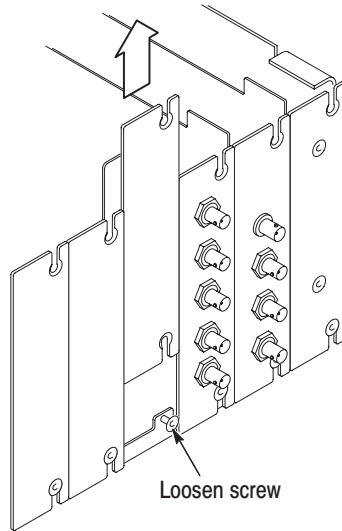

Figure C-3: Removing the rear panel
4. Remove the appropriate rear panel as shown in Figure C-3. Loosen, but do not remove the bottom screw. You will use it later to secure the module.
4. Remove the appropriate rear panel as shown in Figure C-3 on page C-4. Loosen, but do not remove the bottom screw. You will use it later to secure the rear panel.